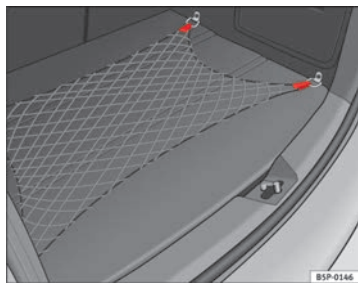

Fig. 108 Luggage compartment net
- Use the fastening rings located on the side of the luggage compartment to attach the storage net ⇒ fig. 108.